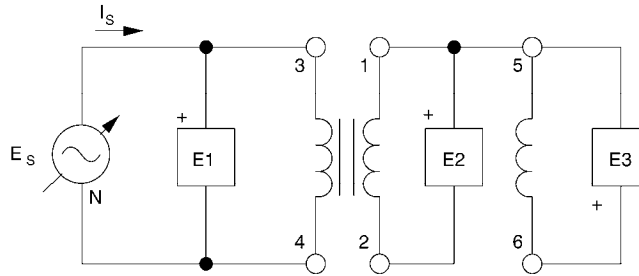

Figure 7-8. Transformer windings connected in series.
- Set up the transformer circuit shown in Figure 7-8. Connect terminals 1 and 5 together as shown. Note that the ac input power in this circuit is connected at winding 3-4.